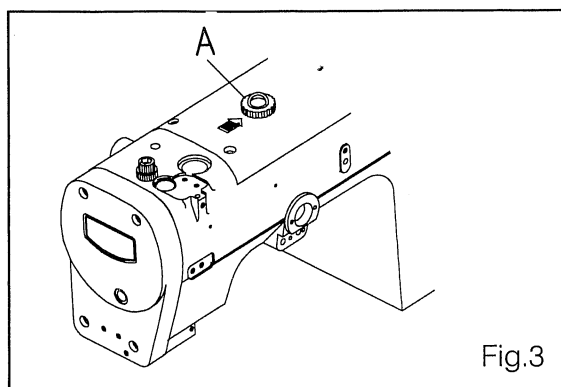

Fig.3
2. The lubricating oil has been drained from the machine before delivery, to remove screw (A) ,and fill the oil reaches between lines H and L of oil level gauge (B). Do go over oil level maximum to avoid oil leakage. (Fig.3,4)